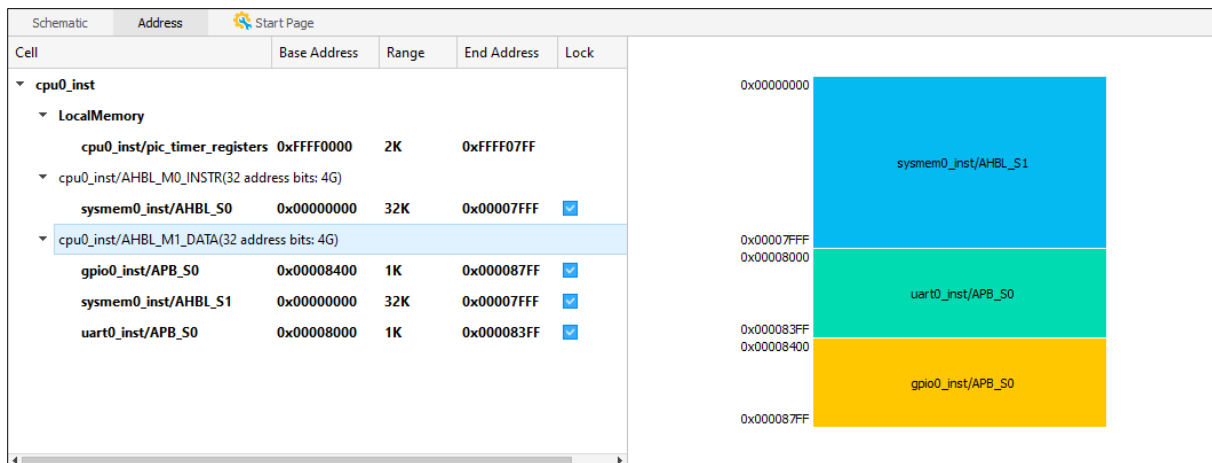

Figure 2.111. Address View
1. In the Propel Builder main window, click the Address tab. The Address view (Figure 2.111) shows.